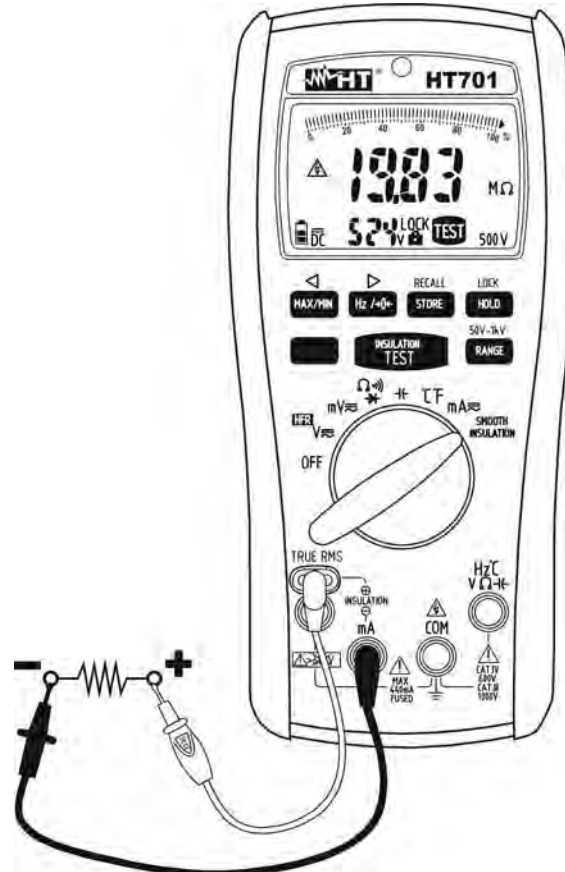

Fig. 10: Use of the instrument for Insulation measurement
5. Insert the red remote probe into input lead “ $\oplus$ ” and the black cable into input lead “ $\ominus$ ” (see Fig. 10).
6. Position the leads at the ends of the circuit to be tested, respecting positive and negative polarity (see Fig. 10). If necessary, use the alligator clips.